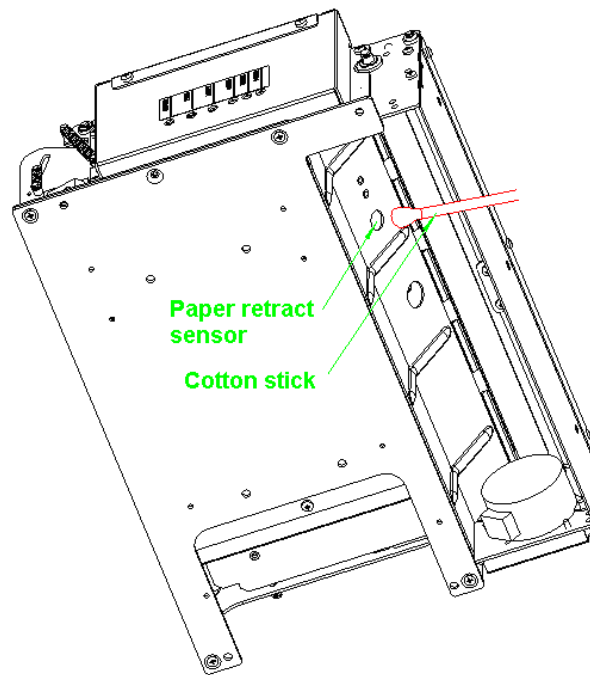

Figure 5.2.2 PRESENTER paper retract sensor
- Find paper out PRESENTER paper retract sensor according to figure 5.2.2: